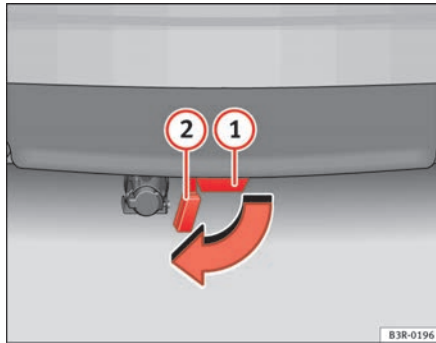

Fig. 149 Rear bumper:
- Remove the cover piece (2) ⇒ fig. 149 on the mounting fixture (1) below the bumper as far as it will go. The cover piece is held automatically in the open position.